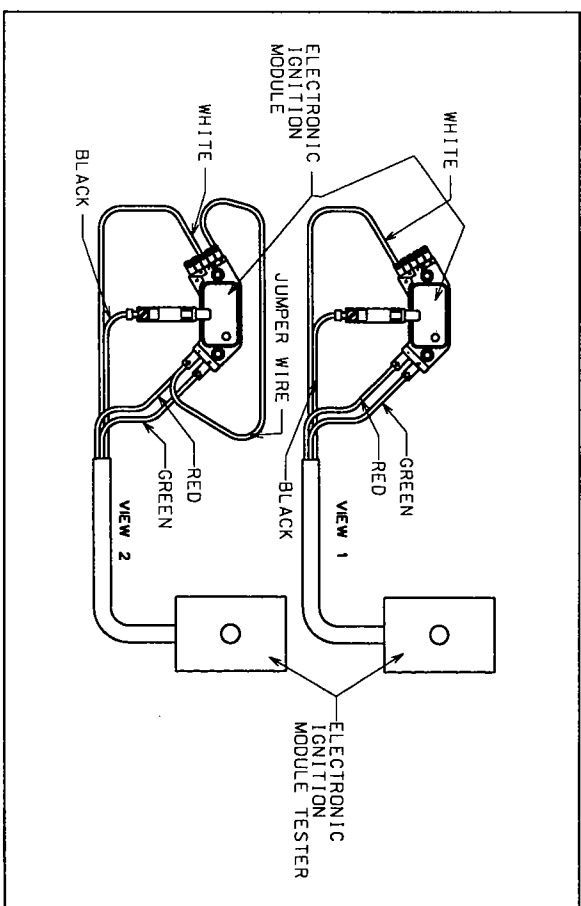

Fig. 11 (Typical example: Wells #DR124)
3. Touch the white trigger lead to the terminal marked "P" to trigger the module. The indicator light should flash on if the module is triggering properly (Fig. 11).